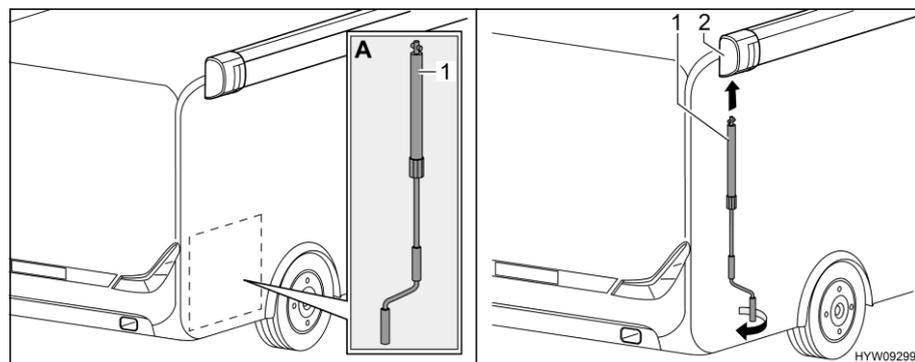

Fig. 46 Installing crank
- Take crank (Fig. 46,1) out of the rear garage (Fig. 46,A).
- Insert crank into bayonet socket (Fig. 46,2) of the awning.